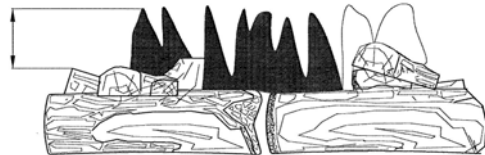

Figure 17 - Correct Flame Pattern with Control Knob Set to High Flame
- Figure 17 shows a correct burner flame pattern.